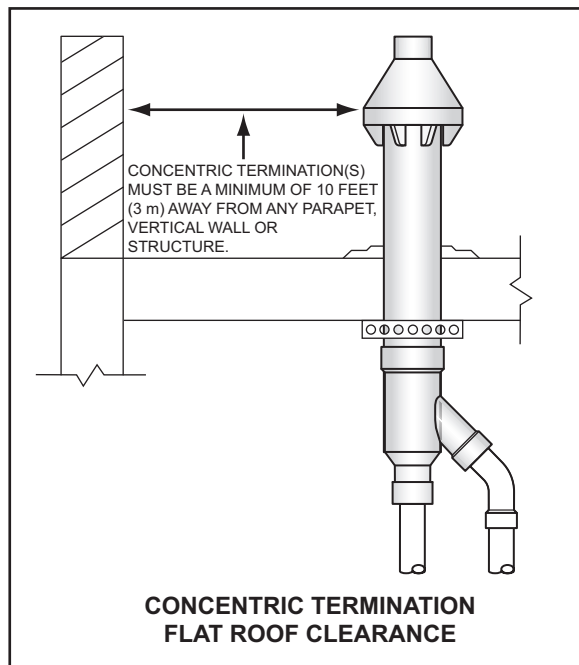

Figure 28
4. When installing a concentric termination vertically through a flat roof, the termination's vent cap must be a minimum of 10 feet (3 m) away from any parapet, vertical wall or structure as shown in Figure 28.